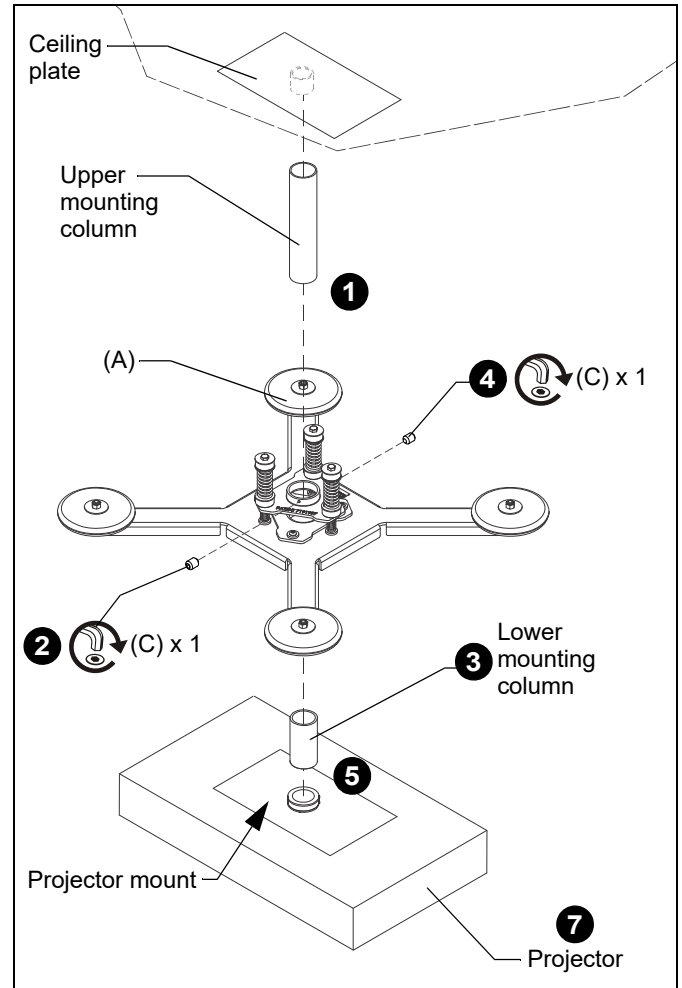

Figure 1
1. Thread top of CMA348 mount (A) onto NPT 1-1/2" upper mounting column. (See Figure 1)
2. Secure NPT 1-1/2" upper mounting column to CMA348 mount (A) using one 10-24 x 1/4" set screw (C). Turn set screw (C) until it contacts thread of NPT 1-1/2" upper mounting column. (See Figure 1)
3. Thread NPT 1-1/2" lower mounting column (not included) into bottom of CMA 348 mount (A). (See Figure 1)
4. Secure NPT 1-1/2" lower mounting column to CMA348 mount (A) using one 10-24 x 1/4" set screw (C). Turn set screw (C) until it contacts thread of NPT 1-1/2" lower mounting column. (See Figure 1)
5. Thread projector mount (not included) onto lower NPT 1-1/2" lower mounting column. (See Figure 1)
6. Secure NPT 1-1/2" lower mounting column to projector mount following the installation instructions provided with the projector mount (not included). (See Figure 1)